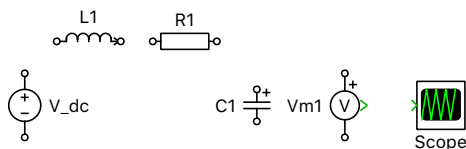

Figure 2: Components of the RLC network
- 1 Drag and drop the Voltage Source DC, Inductor, Resistor, Capacitor, Voltmeter and Scope components from the library onto the schematic window, as shown in Fig. 2.